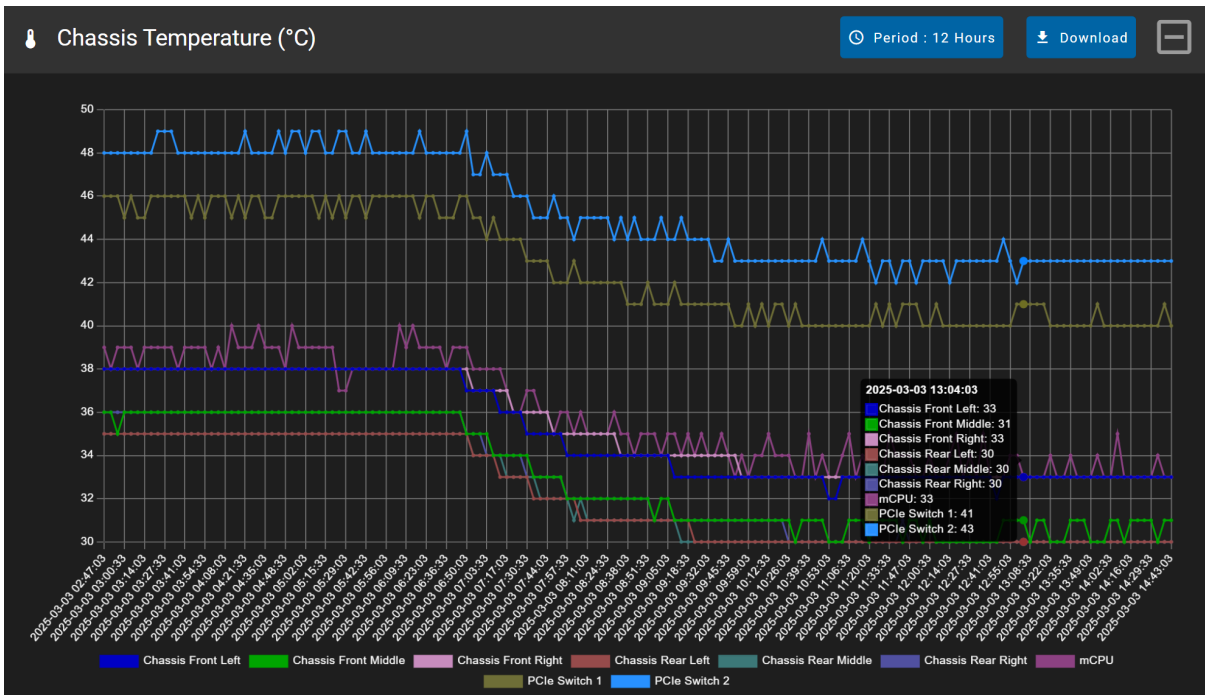

Figure 59. Chassis Temperature Chart
- Navigate to the monitoring interface to find the Chassis Temperature chart (refer to Figure 59).